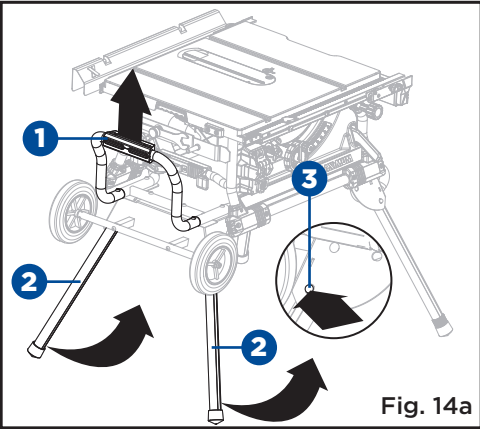

Fig. 14a
FOLDING THE STAND (Fig. 14a-14f)
- Grasp the stand support assembly (1) and lift it up until two stand legs (2) (located on side of the wheel) raise off the ground, then fold in two stand legs (2). To do this, push the lock pins (3) until they unlock the stand legs (2) from the holes, then swing the stand legs (2) upward until the stand legs are locked with the locking pins (3) engaging the holes. (Fig. 14a)